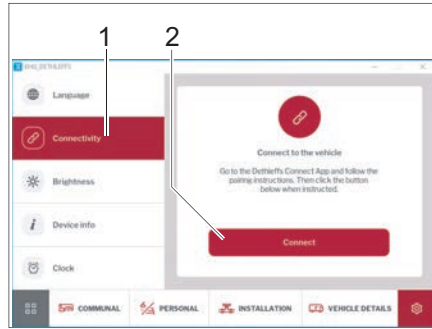

Fig. 273 Connecting via the EHG display
- Click on the *Connection* (Fig. 273,1) button. A notification will appear to explain how your mobile device can be connected to the vehicle.
- Click on the *Connect* (Fig. 273,1) button. Your vehicle and mobile device are now paired.